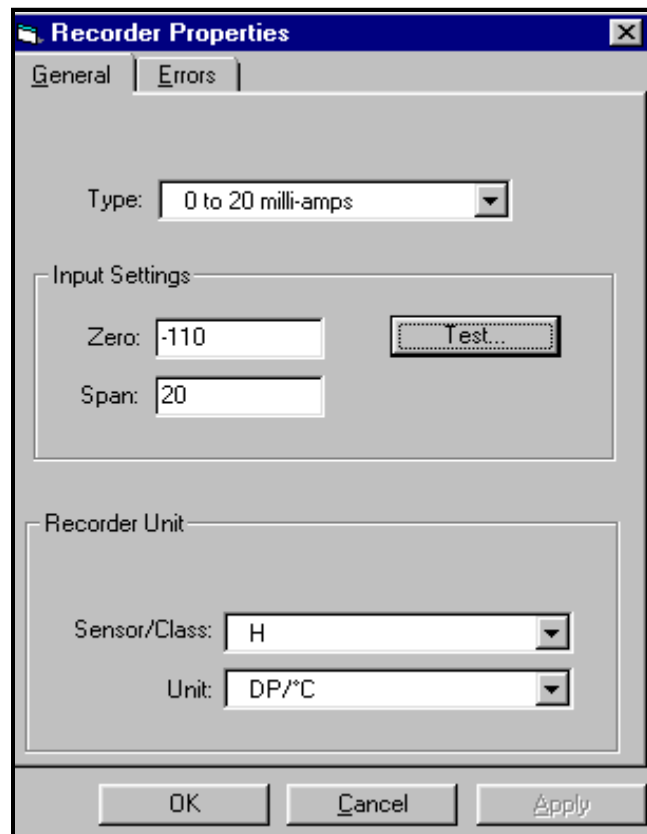

Figure 4-4: Recorder Properties Window
2. From the channel menu, click on the “*Recorders*” option, and then on “*Recorder A*” or “*Recorder B.*” The Recorder Properties window appears, as shown in Figure 4-4 below.
1. To test the recorder outputs, click on the [Test] button shown in the “*Recorder Properties*” window (Figure 4-4 on page 4-6). A message appears: “This will suspend Recorder #[X] on Channel [X]. Are you sure you want to test this recorder?” Click on [OK] to continue.